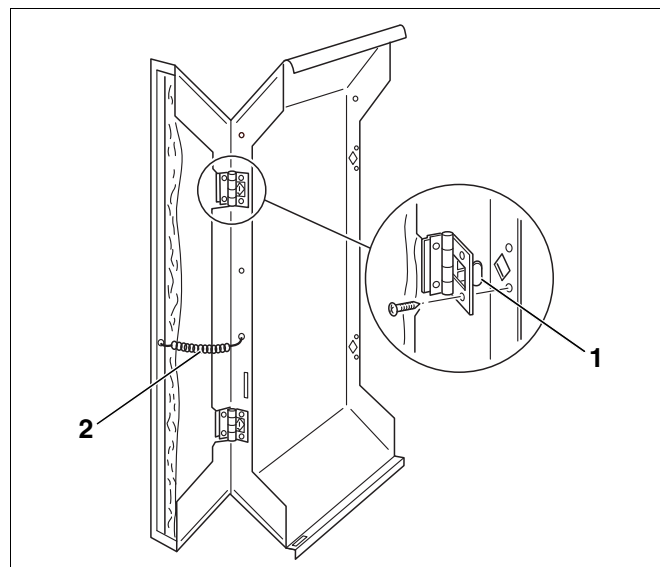

Fig. 49 Fitting the side panel flaps
- ▶ Hook the hinge pins (Fig. 49, [1]) on the side wall flap into the cut-out of the front side panel and secure with self-tapping screws.
- ▶ Attach tension spring (Fig. 49, [2]) to the side panel and side panel flap.